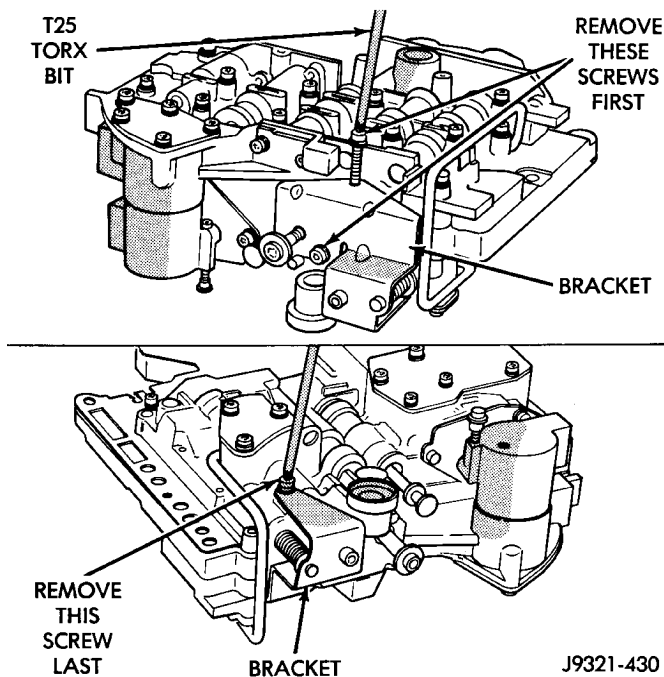

Fig. 57 Adjusting Screw Bracket Fastener
(20) Remove screws attaching pressure adjusting screw bracket to valve body and transfer plate (Fig. 57). Hold bracket firmly against spring tension while removing last screw.